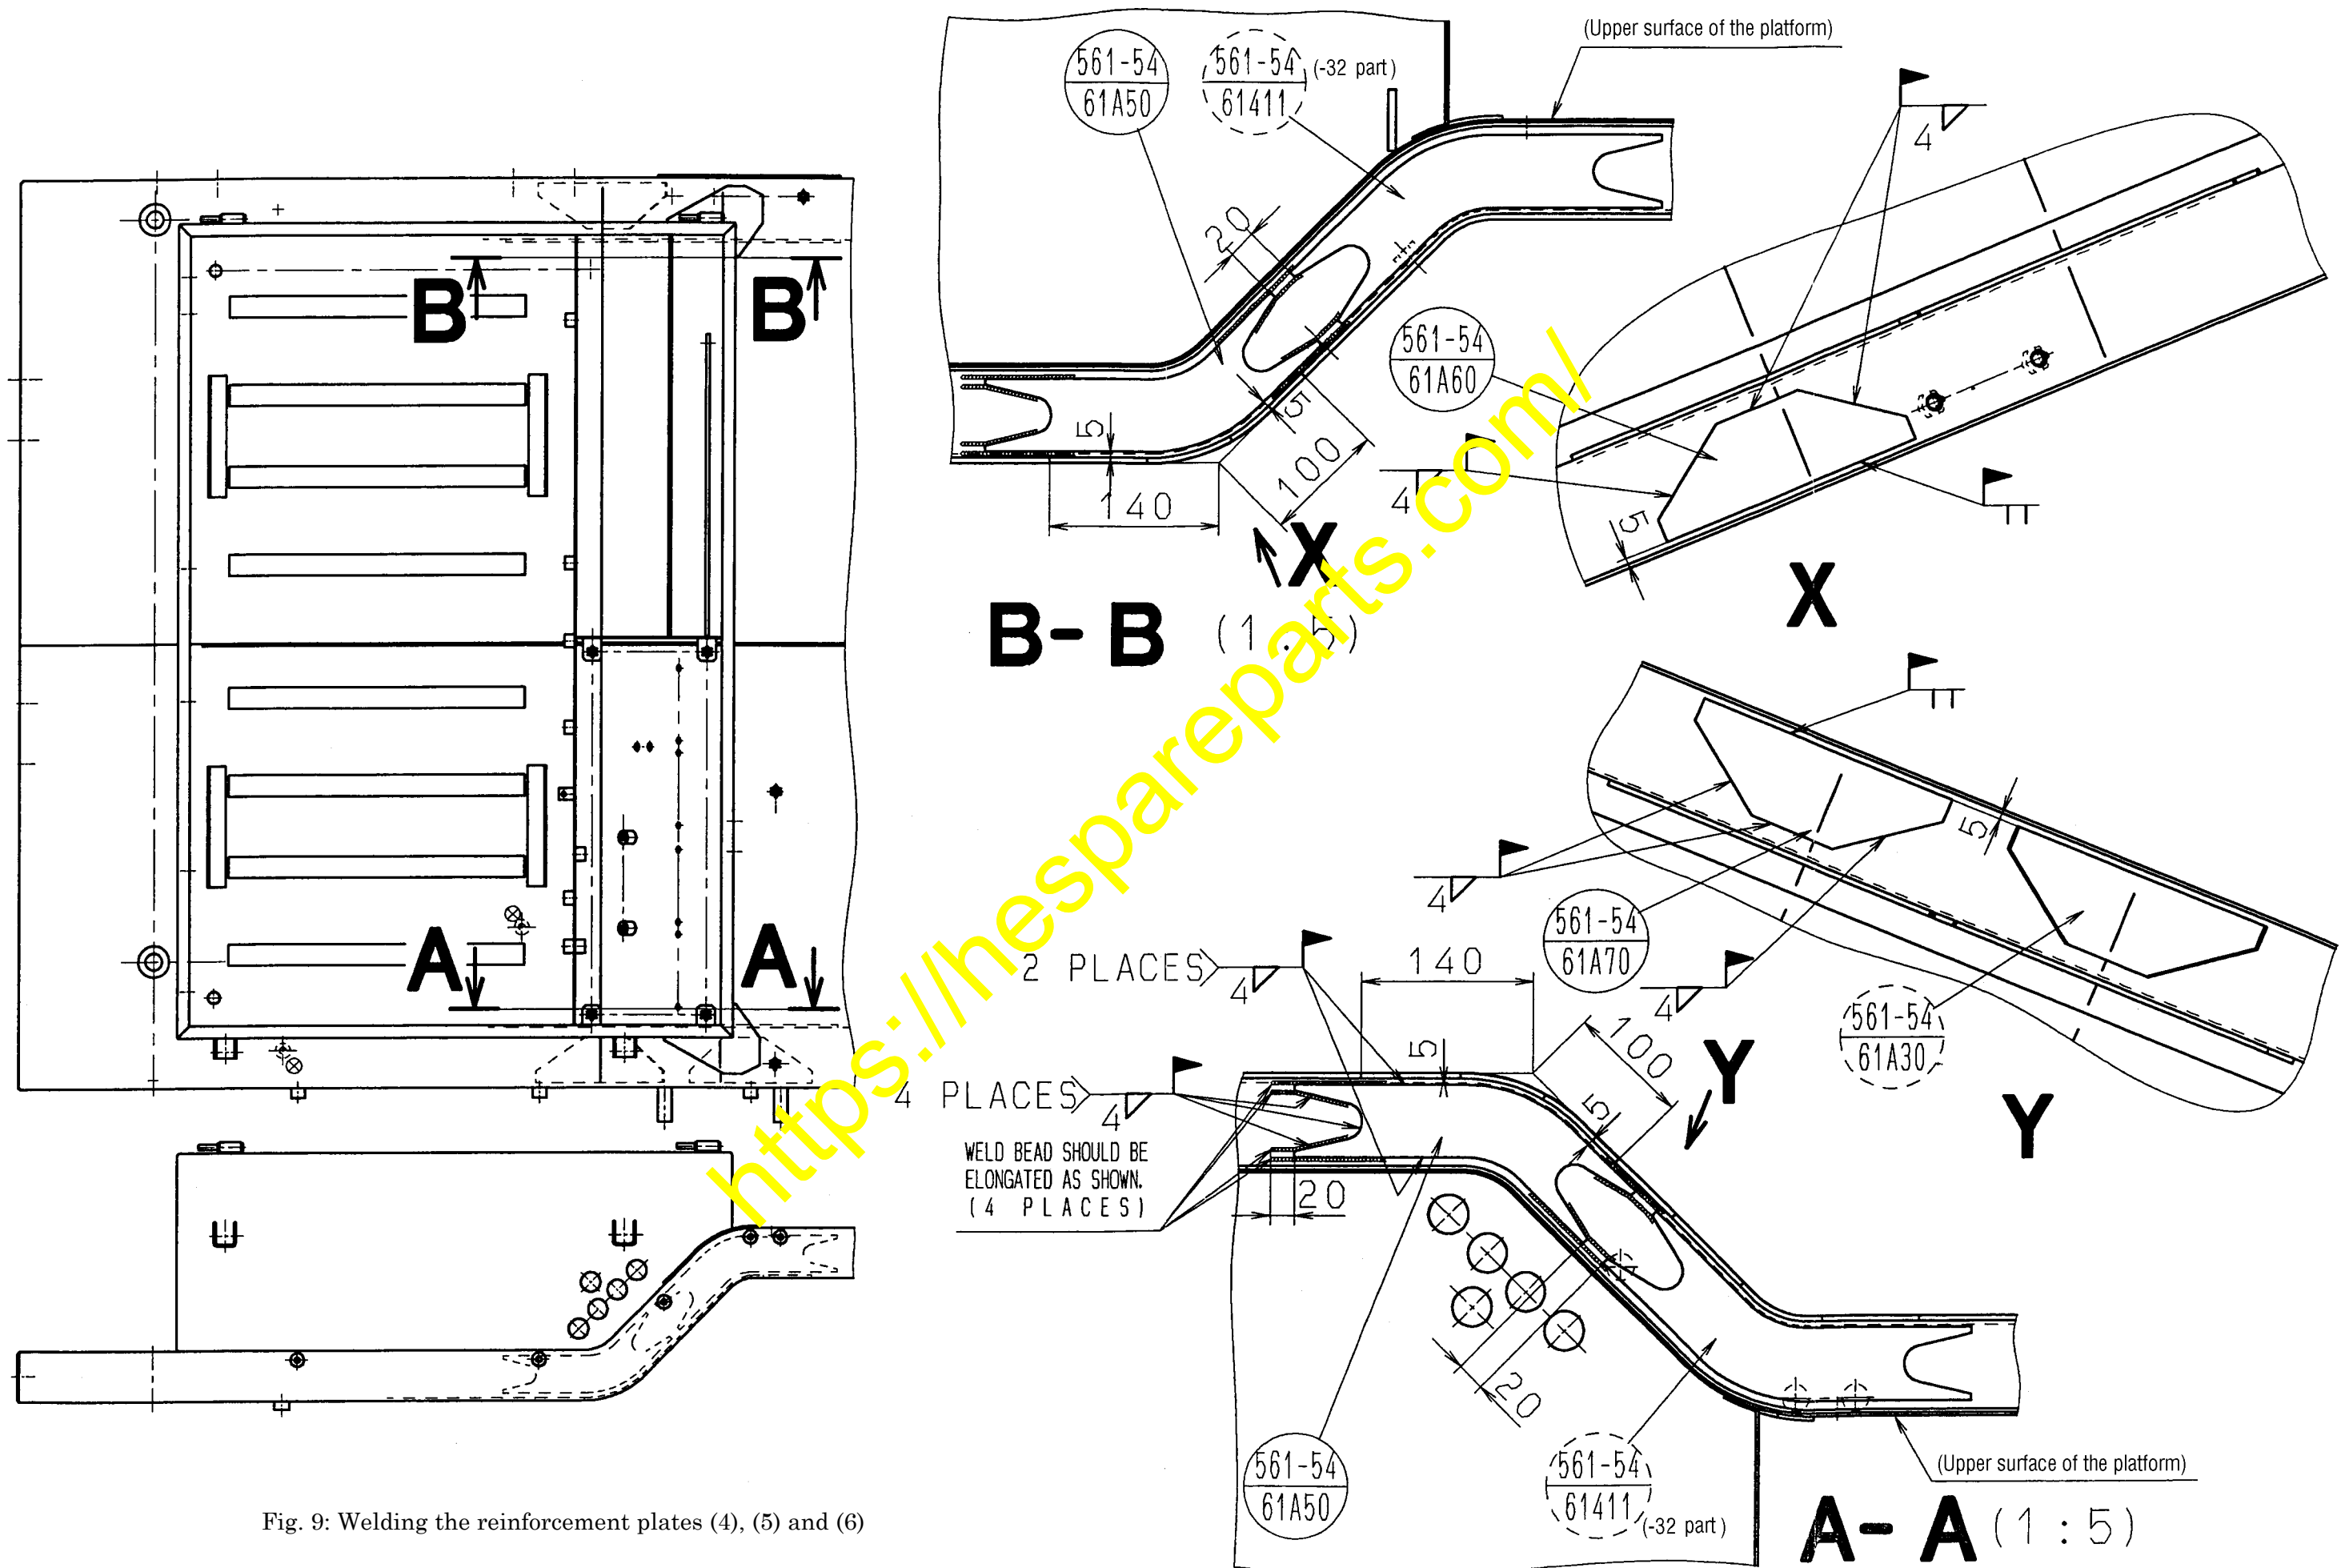

Fig. 9: Welding the reinforcement plates (4), (5) and (6)
- 3-3. Weld the reinforcement plates as per the instructions given in Fig. 8 and Fig. 9.